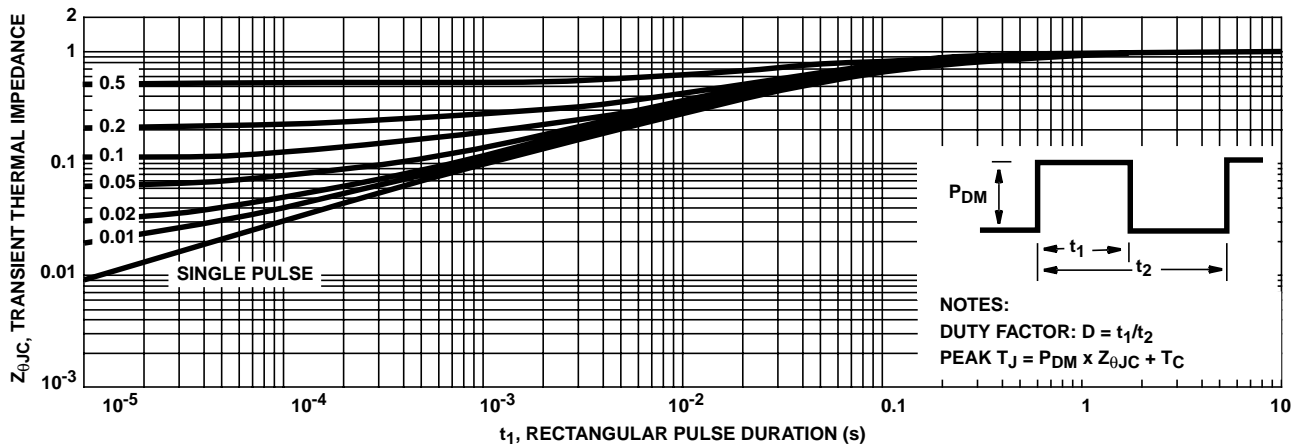

FIGURE 3. NORMALIZED MAXIMUM TRANSIENT THERMAL IMPEDANCE
3. Repetitive Rating: Pulse width limited by Max junction temperature. See Transient Thermal Impedance Curve (Figure 3).